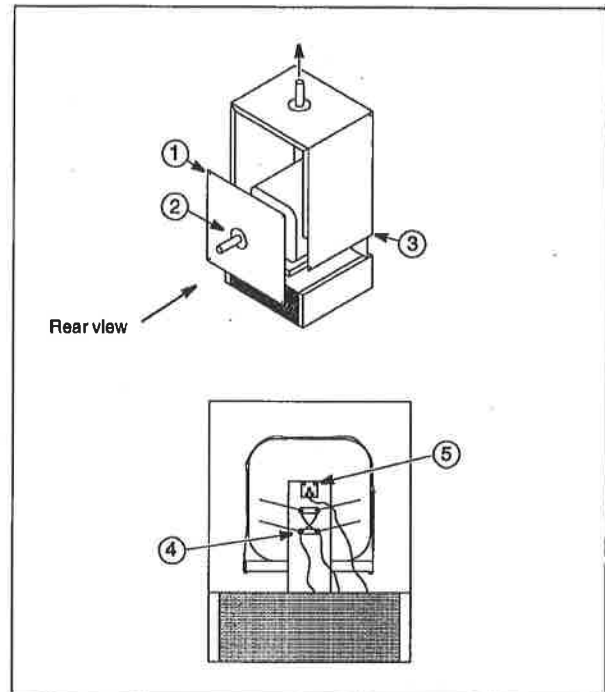

Figure 9. Heating Unit Replacement
To replace the heating unit, complete the following steps (refer to Figure 9):
1. Remove any atmosphere piping connected to the atmosphere pipe (item #2 in Figure 9).
3. Remove the screws from corners of the rear panel (#1 in Figure 9).
6. Remove the six corner screws from the shell (#3 in Figure 9).
8. Note the terminal connections of the element wires and label them for reattachment. Loosen the terminal nuts and remove the element wires (#4 in Figure 9).
9. Remove the thermocouple head screws and slide the thermocouple out (#5 in Figure 9).